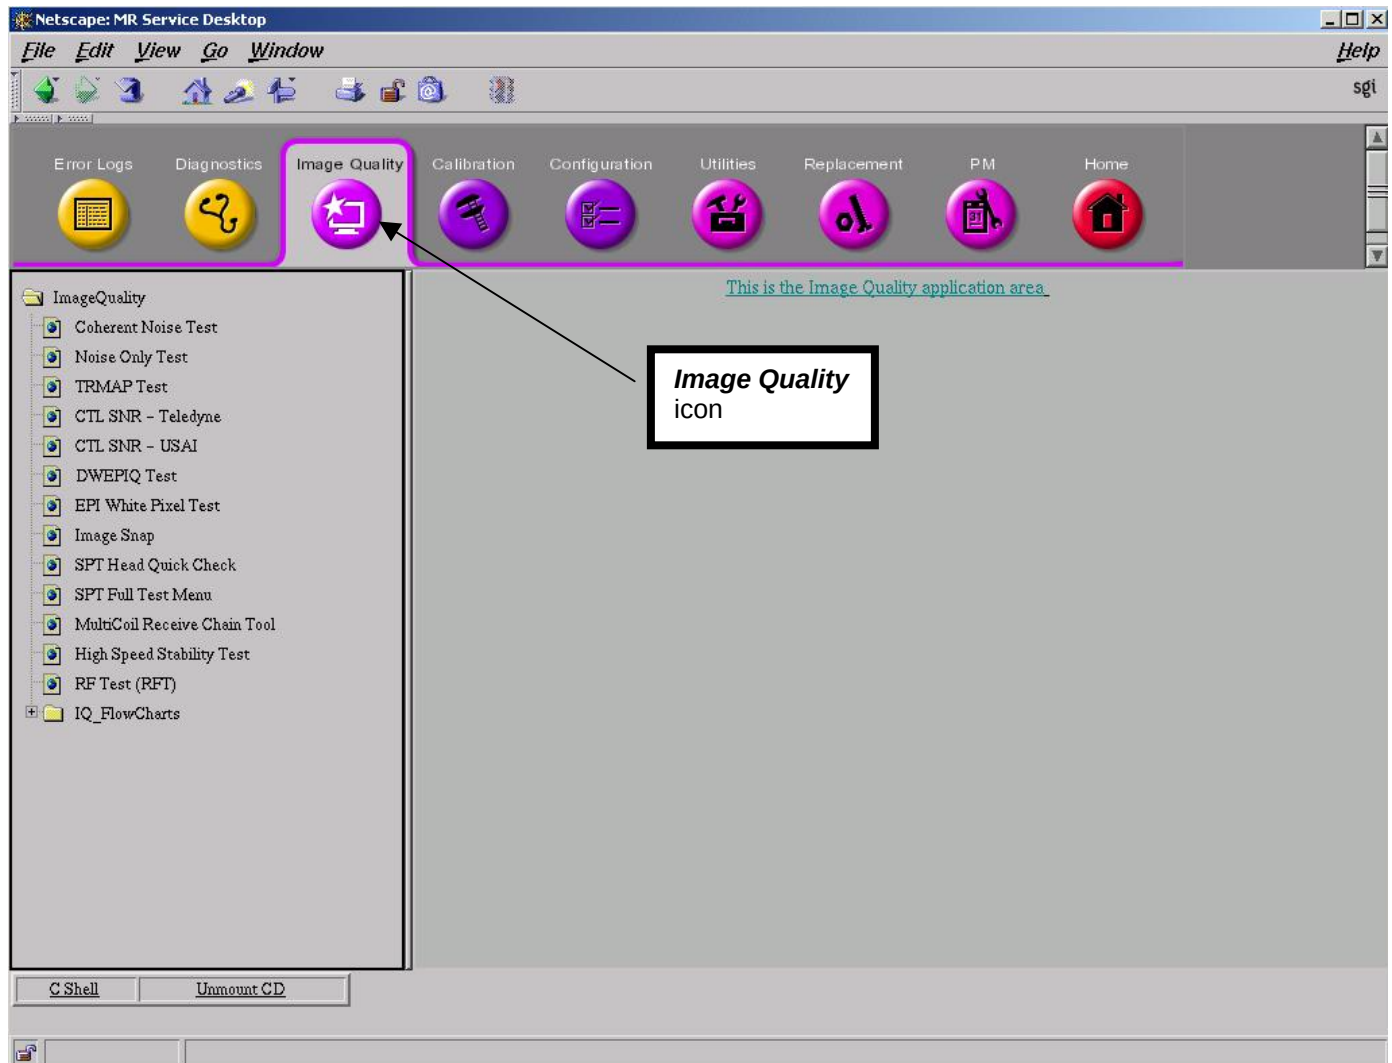

Figure 1
3. From the Common Service Desktop, select the Image Quality icon. See Figure 1.